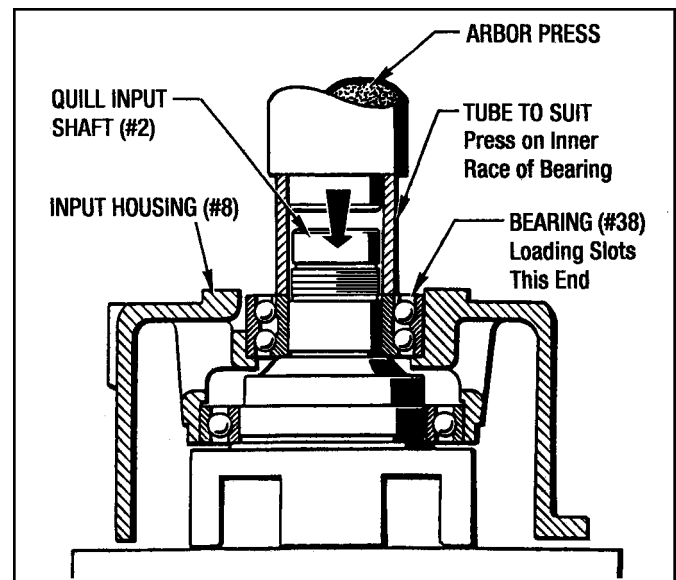

Figure 9.10 - Pressing Bearing (#38) on Output Shaft
- Set the Quill Input Shaft and Housing Subassembly into an arbor press as shown in Figure 9.10. Use an appropriate sized tube and press on the inner race of Bearing (#38) until it bottoms out.